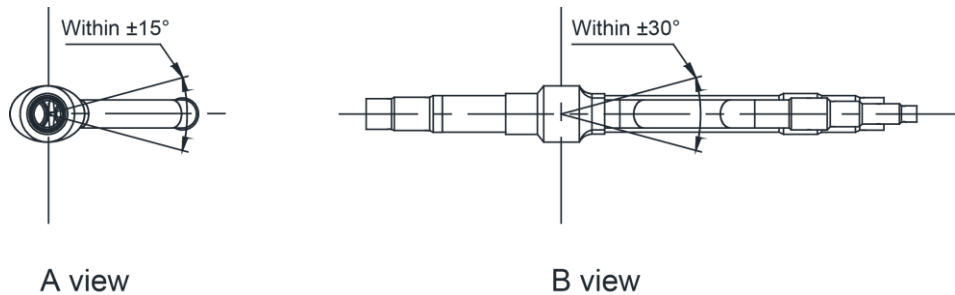
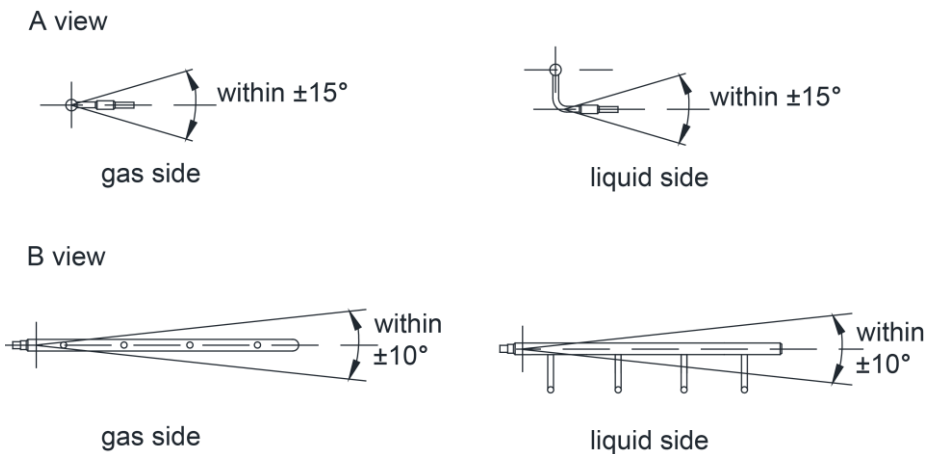

Fig.28
Fig.29
(3) Y-type manifold can be installed vertically or horizontally. Confirm the position and then weld the manifold pipe. See the Fig.28. T-type manifold must be installed horizontally with inclination, see the Fig.29.